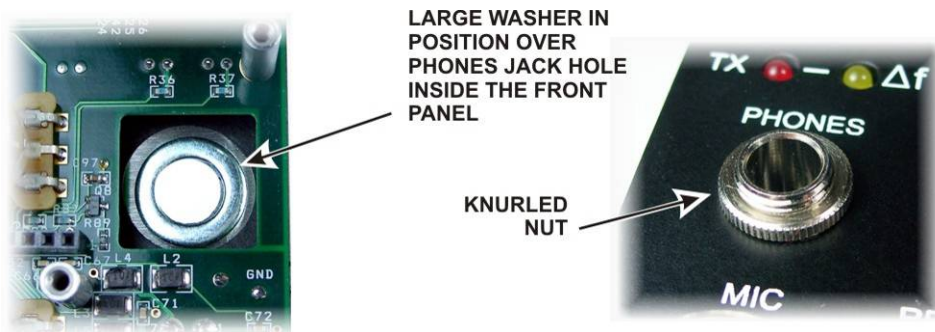

Figure 30. Phones Jack Hardware.
- Position the large flat washer on the inside of the front panel over the PHONES jack hole (see Figure 30 on page 28). This is easily done by sliding the washer into place from the end of the front panel.
- Screw the knurled nut onto the threaded shaft of the PHONES jack where it exits the front panel (see Figure 30). Screw it only finger tight. Do not use pliers.